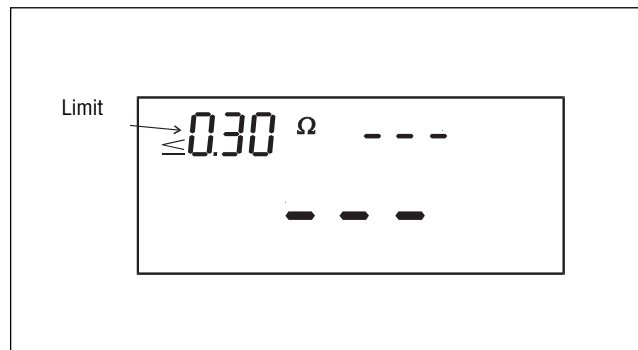

Fig. 7.10
- Connect COMMANDER 2 to UNITEST MACHINEmaster, switch on instrument and set switch Measurement Function to position  $R_{PE} \pm 200 \text{ mA}$  or  $R_{PE} 10 \text{ A}$ . The following is displayed (Fig. 7.10):